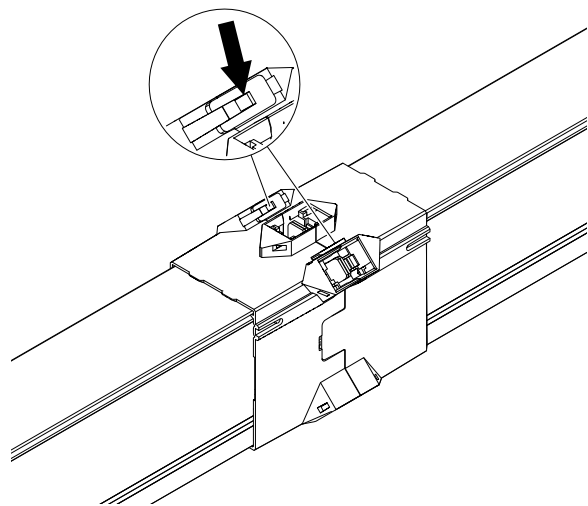

Fig. 116: Disengage narrow clips
- Disengage the narrow clips in the upper area (see Fig. 116).